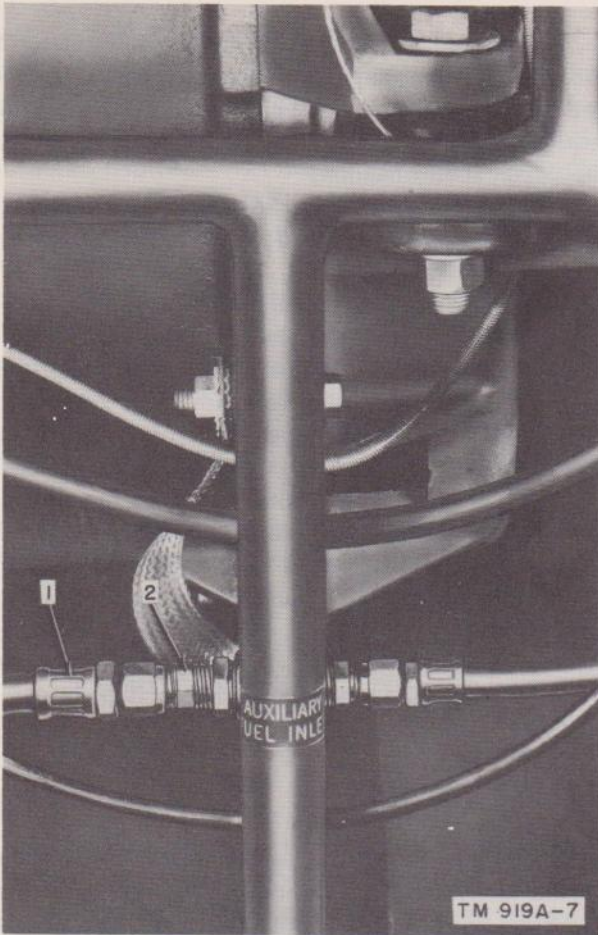

Figure 7. Fuel supply hose connection.
remote fuel line (1, fig. 7) to the coupling (2) located near the fuel filter on the right side of the unit. Connect the opposite end to the fuel drum adapter. Mount the adapter in an externally located fuel container. Be sure all connections are tight.